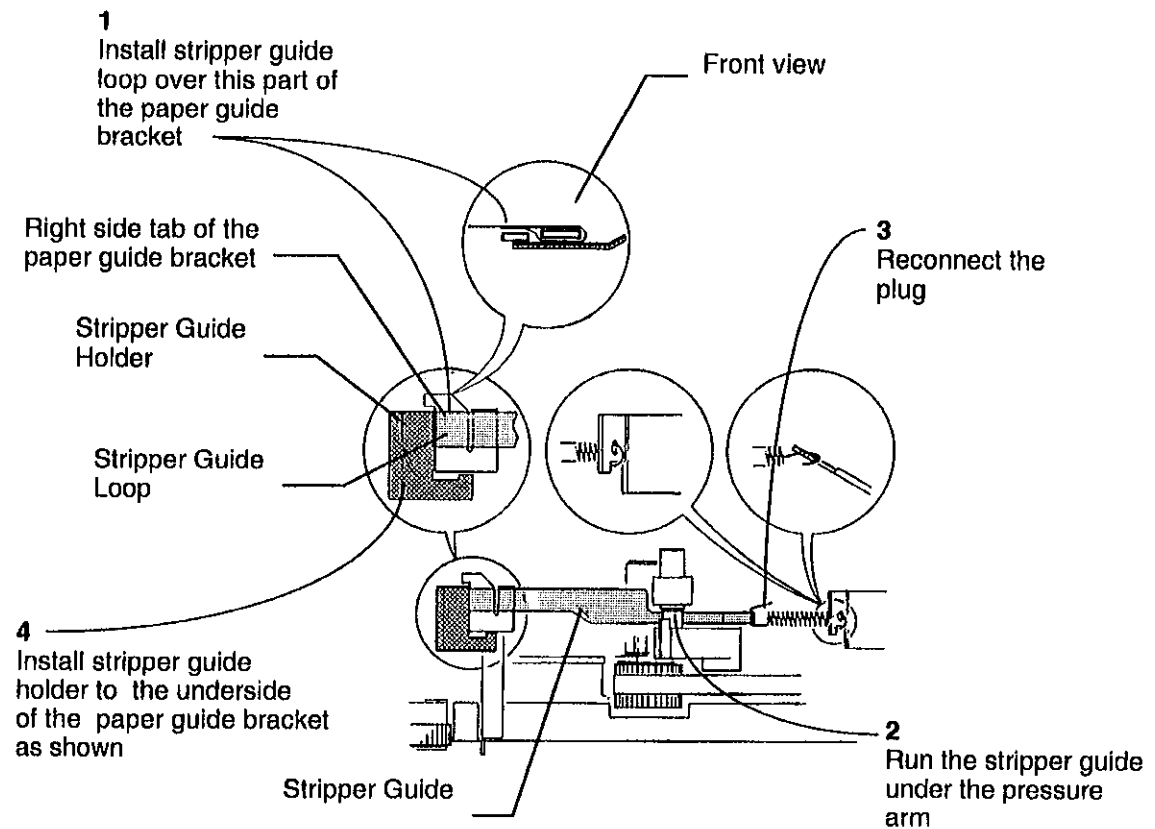

Figure 2. Installing the Stripper Guide and the Stripper Guide Holder
- 1 (Figure 2): Install the stripper guide and the stripper guide holder.